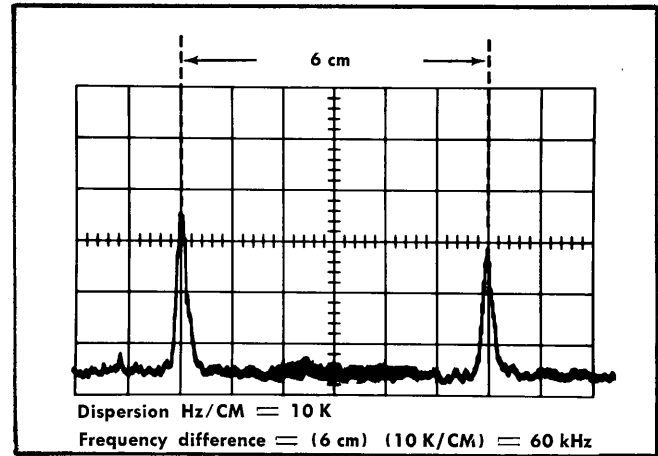

Fig. 2-13. Frequency difference measurements between two signals.
3. Measure the signal separation in centimeters then multiply this reading by the Hz/CM selector setting. This is the frequency separation or frequency difference between the two signals (see Fig. 2-13). The accuracy of this measurement is dependent on the DISPERSION Hz/CM selector setting. See Characteristic section.